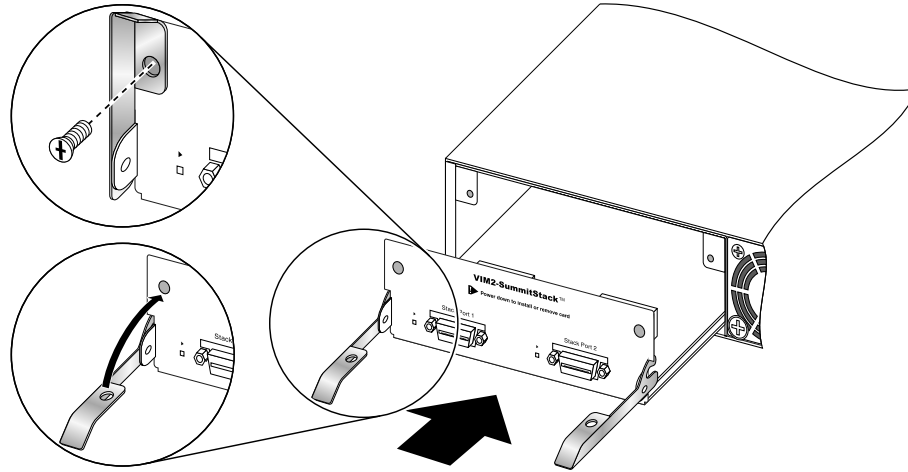

Figure 443: Installing a VIM
5. Install the replacement VIM in the switch (see Figure 443 on page 507):